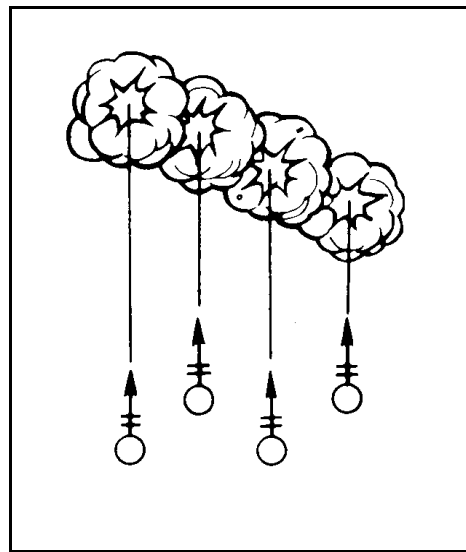

Figure 4-4. Type of special sheaf.
d. **Special Sheaf.** The special sheaf (Figure 4-4) is normally used in an attitude mission and when needed for the FPF. With the special sheaf, each mortar has a certain point to engage. The mortars may have different deflections and elevations.